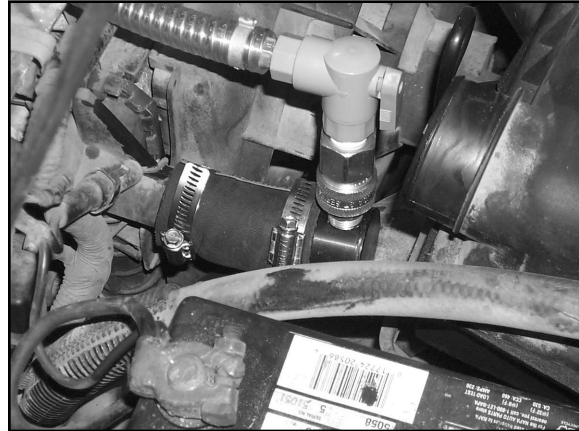

Figure 2-1: Recovery Hose and Adapter Attached to Radiator
11. Connect recovery hose (red) and adapter to radiator side of disconnected radiator or hose, refer to *fig. 2-1*.